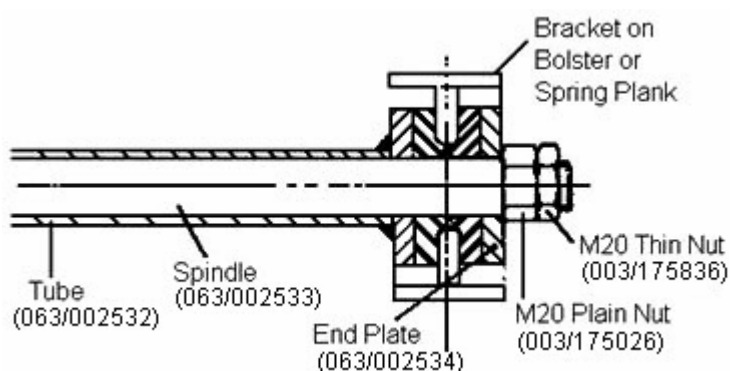

Figure 1.2: Bolster Control Rod End Fixing
- 1.5.1 Assemble a pad, the tube and another pad onto the spindle (see Figure 1.2 for orientation of pads).